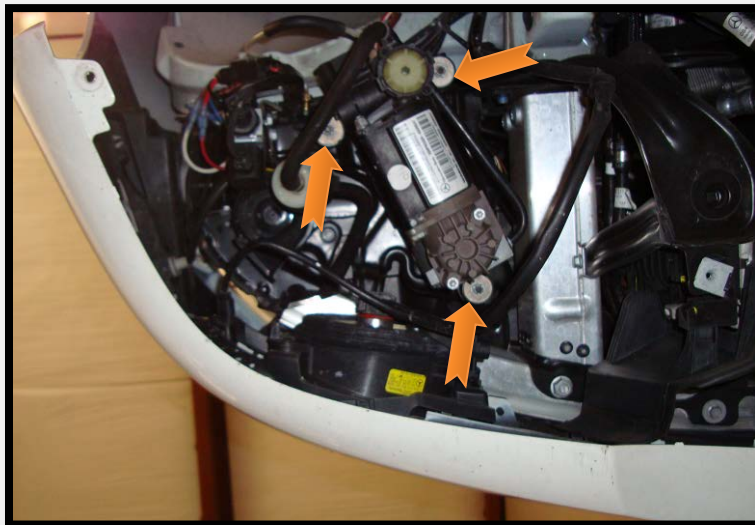

Figure 5.0
- 5.0 Unscrew the three nuts (arrows) and remove the compressor unit. When Re-installing torque to 3 Nm/ 2.2 Lb-ft. (Figure 5.0)